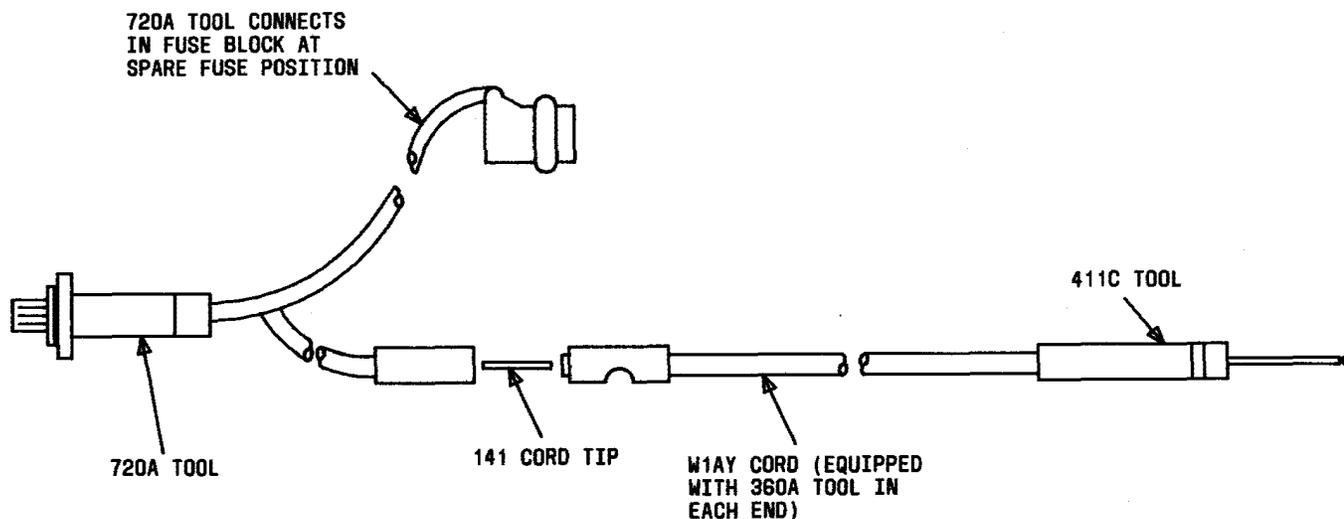

Fig. 3—Fuse Alarm Test Cord Assembly
- (2) Depress NOR key.
- (3) Prepare the alarm test cord by connecting one end of the WIAY testing cord to the 141 cord and 720A voltage pickup tool. (The KS-6278 connecting clip may be used to replace the 720A voltage pickup tool.) On the opposite end of the WIAY testing cord, connect the 411C test tool (see Fig. 3).
- (4) **Caution: Test only the fuses associated with the same polarity voltage supply.** Install the 720A voltage pickup tool in a -48 volt spare 70-type fuse position. (If the 720A tool is not available, obtain the same polarity voltage supply by connecting a KS-6278 connecting clip with the WIAY testing cord to the positive or negative bus bar).
- (3) Prepare the alarm test cord by connecting one end of the W1AY testing cord to the 141 cord and 720A voltage pickup tool (the KS-6278 connecting clip may be used to replace the 720A voltage pickup tool.) On the opposite end of the W1AY testing cord, connect the 411C test tool (see Fig. 3).
- (4) **Caution: Test only the fuses associated with the same polarity voltage supply.**